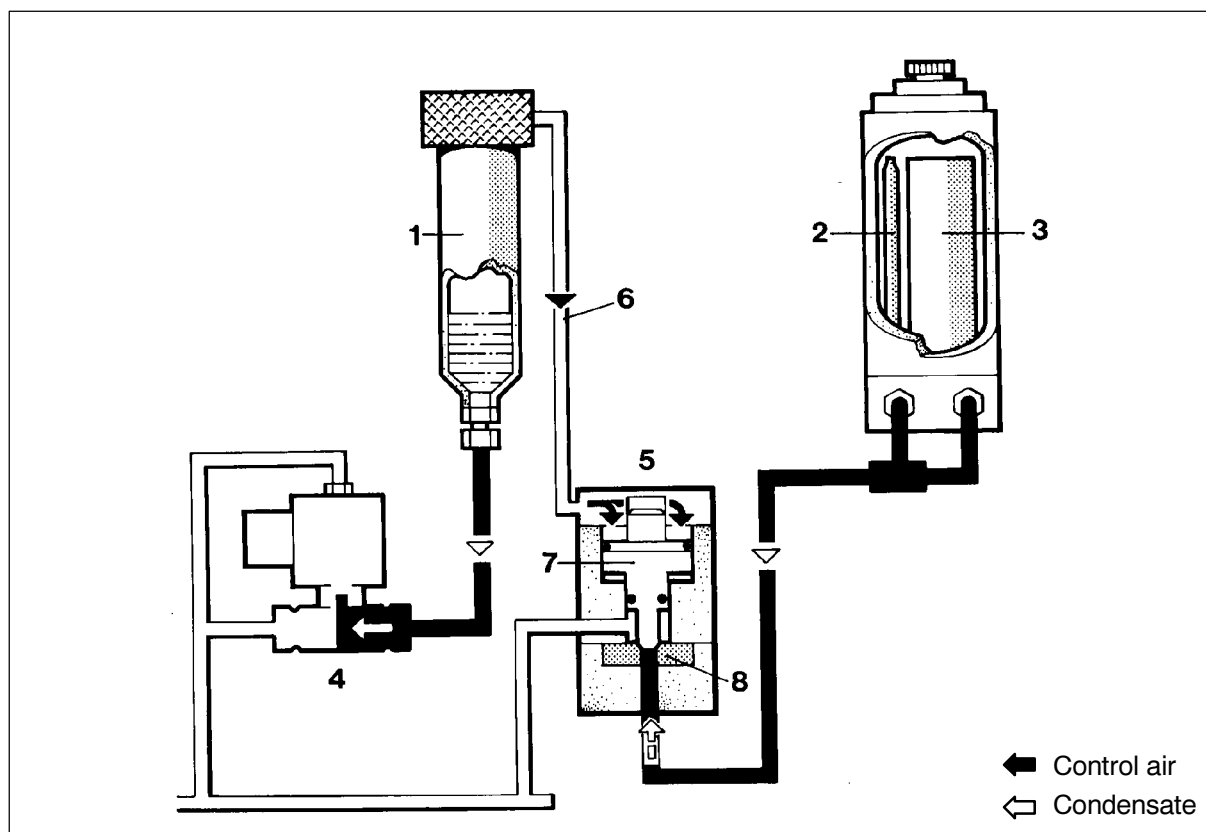

Fig. 22 Condensate drain unit at normal operation
All positions refer to Fig. 22. The normally open condensate drain valves are connected in cascade mode. The condensate from the intermediate separator (1) after the 2nd stage is applied to the solenoid valve (4). The solenoid valve is normally open. The condensate from the oil and water separator (2) and purifier (3) is applied to the pneumatically operated condensate drain valve (5).